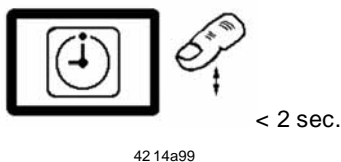

Fig. 11-3 To acknowledge a malfunction
- Before that the malfunction can be confirmed (Fig. 11-3).